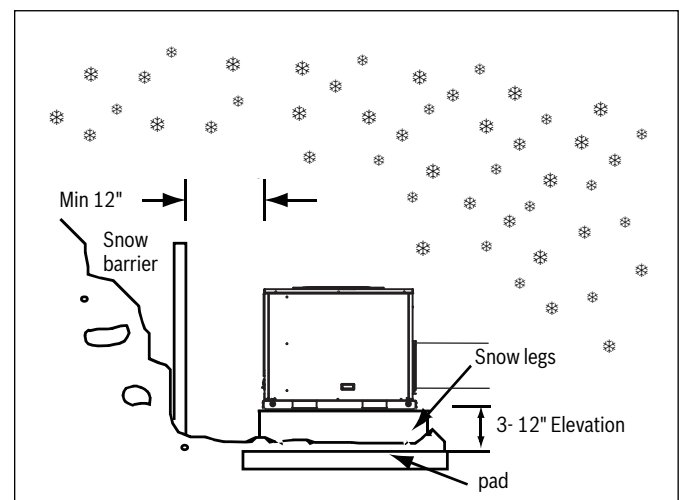

Figure 13 Insulation Layer
- ▶ Units should be elevated 3-12 inches above the pad or rooftop, depending on local weather. This additional height will allow drainage of snow and will permit condensate water to drain when the unit is in defrost mode. Ensure that drain holes in unit base pan are unobstructed, preventing drainage of defrost water (See Figure 13).